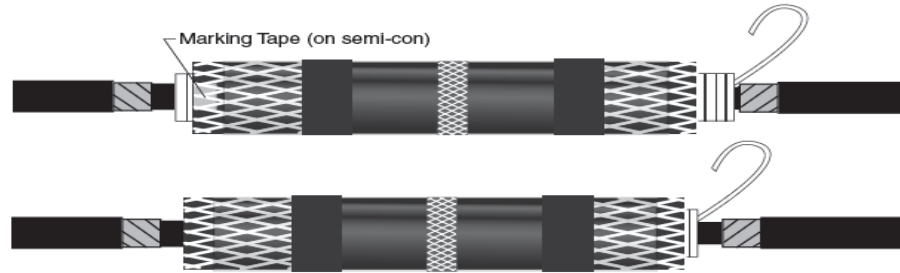

Figure 20
- Place marking tape on one side of the cable as indicated in the instructions. Position the splice body so that the silicone's edge is lined up with the marking tape Refer to Figure 20.